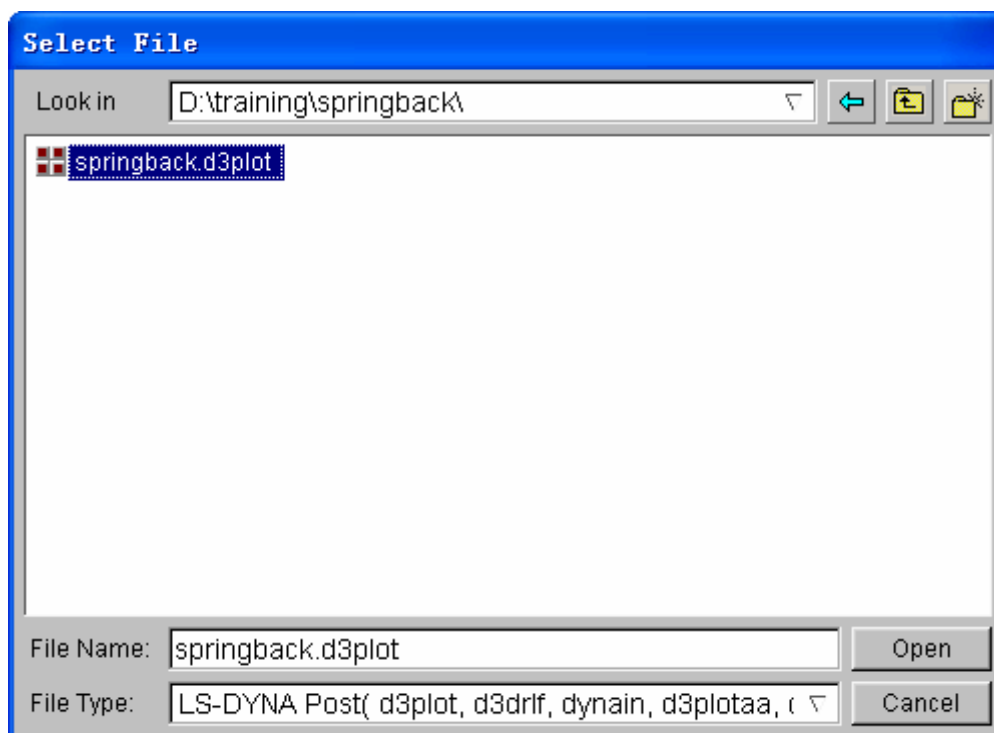

Figure 6.16 Select File dialog box
1. Select **File**→**Open** in the eta/POST menu bar. The **SELECT FILE** dialog box is illustrated in Figure 6.16.